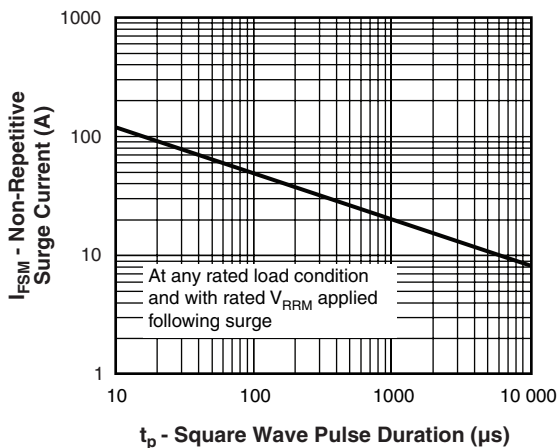

Fig. 6 - Maximum Non-Repetitive Surge Current (Per Leg)
- (1) Formula used: $T_C = T_J - (P_d + P_{d_{REV}}) \times R_{thJC}$;
- P_d = Forward power loss = $I_{F(AV)} \times V_{FM}$ at $(I_{F(AV)}/D)$ (see fig. 6);